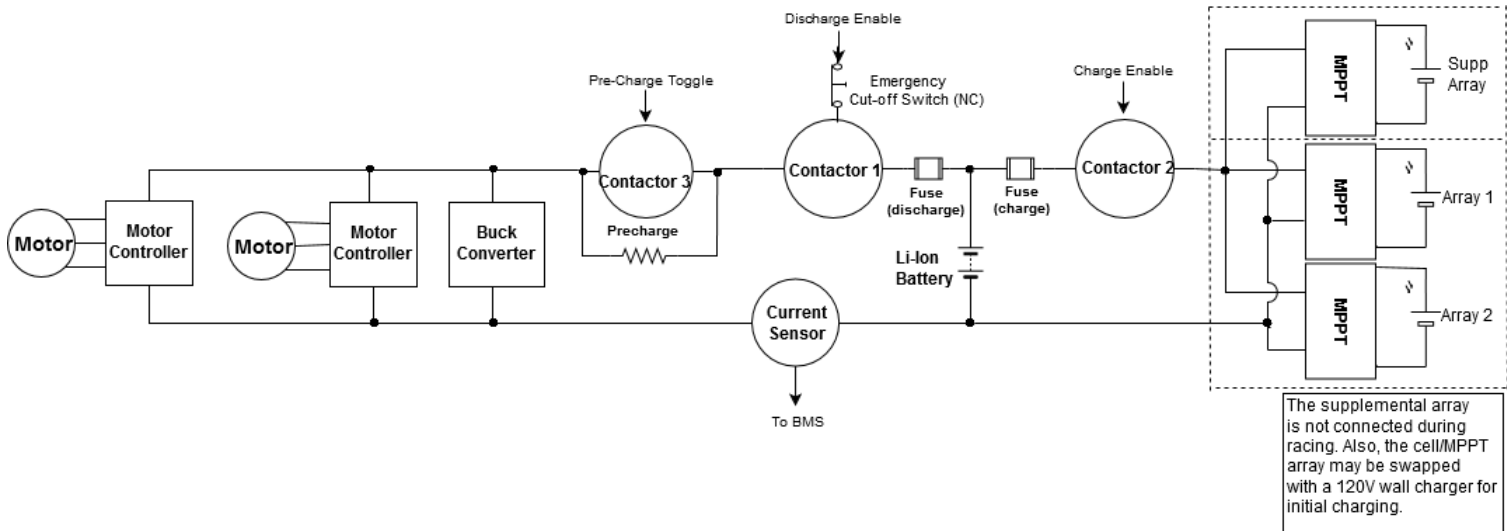

Figure 1: High-voltage system diagram
- Logic board powers on, and after three seconds, “Precharge Toggle” closes Contactor 3 (Fig. 1)
- If all tests pass, the BMS closes Contactors 1 & 2 (Fig. 1) and issues “Battery Ready Signal” to disconnect the Aux Pack from the 12V power bus
4 AWG copper wire (TEMCo Industrial Welding Cable) is used for all HV wiring on discharge side (Fig. 1):